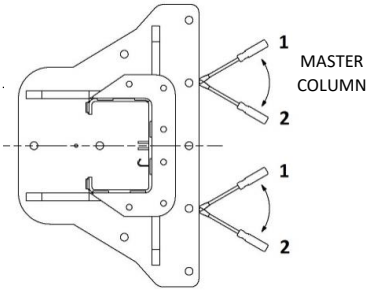

FIGURE 10 : MOVING METHOD OF COLUMNS.
4.1 INSERT 2 SCREWDRIVER HANDLE PRY BARS UNDER THE BASE WITH A MOVEMENT LEFT-RIGHT RIGHT-LEFT TO MOVE THE COLUMN. SEE **FIGURE 10.**